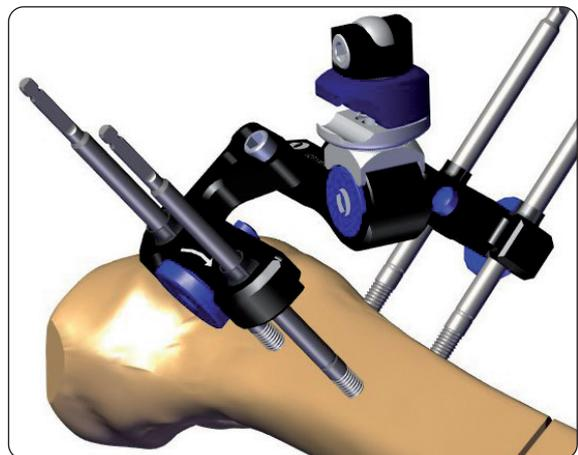

Fig. 8
**PRECAUTION:** During and after insertion, ensure correct positioning of the implants under image intensification. Check screw insertion both in the AP and lateral planes. (Fig. 8)